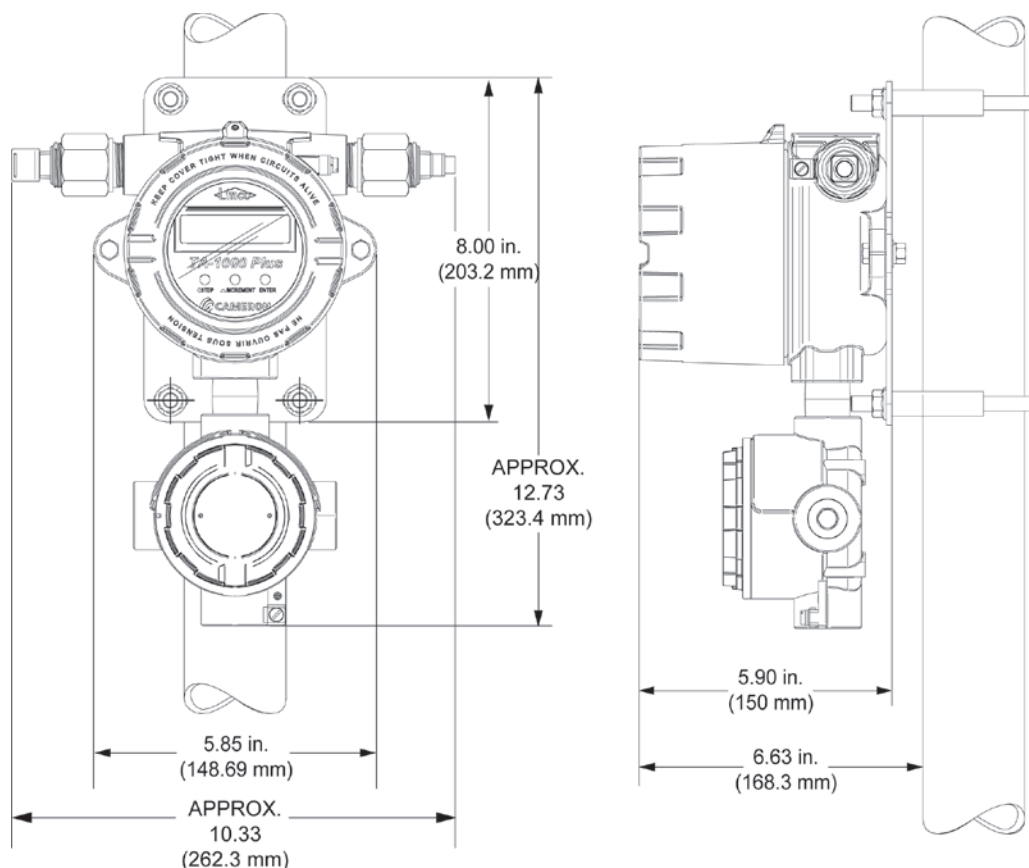

Figure 3.4—Typical explosion-proof package dimensions for pole-mount installation
3. Align the metal bracket against the pole so that the U-bolts pass through the mounting holes in the bracket. Place the mounting plate over the threaded ends of the U-bolts and against the bracket and secure the U-bolts with the nuts provided (Figure 3.4, Page 24).